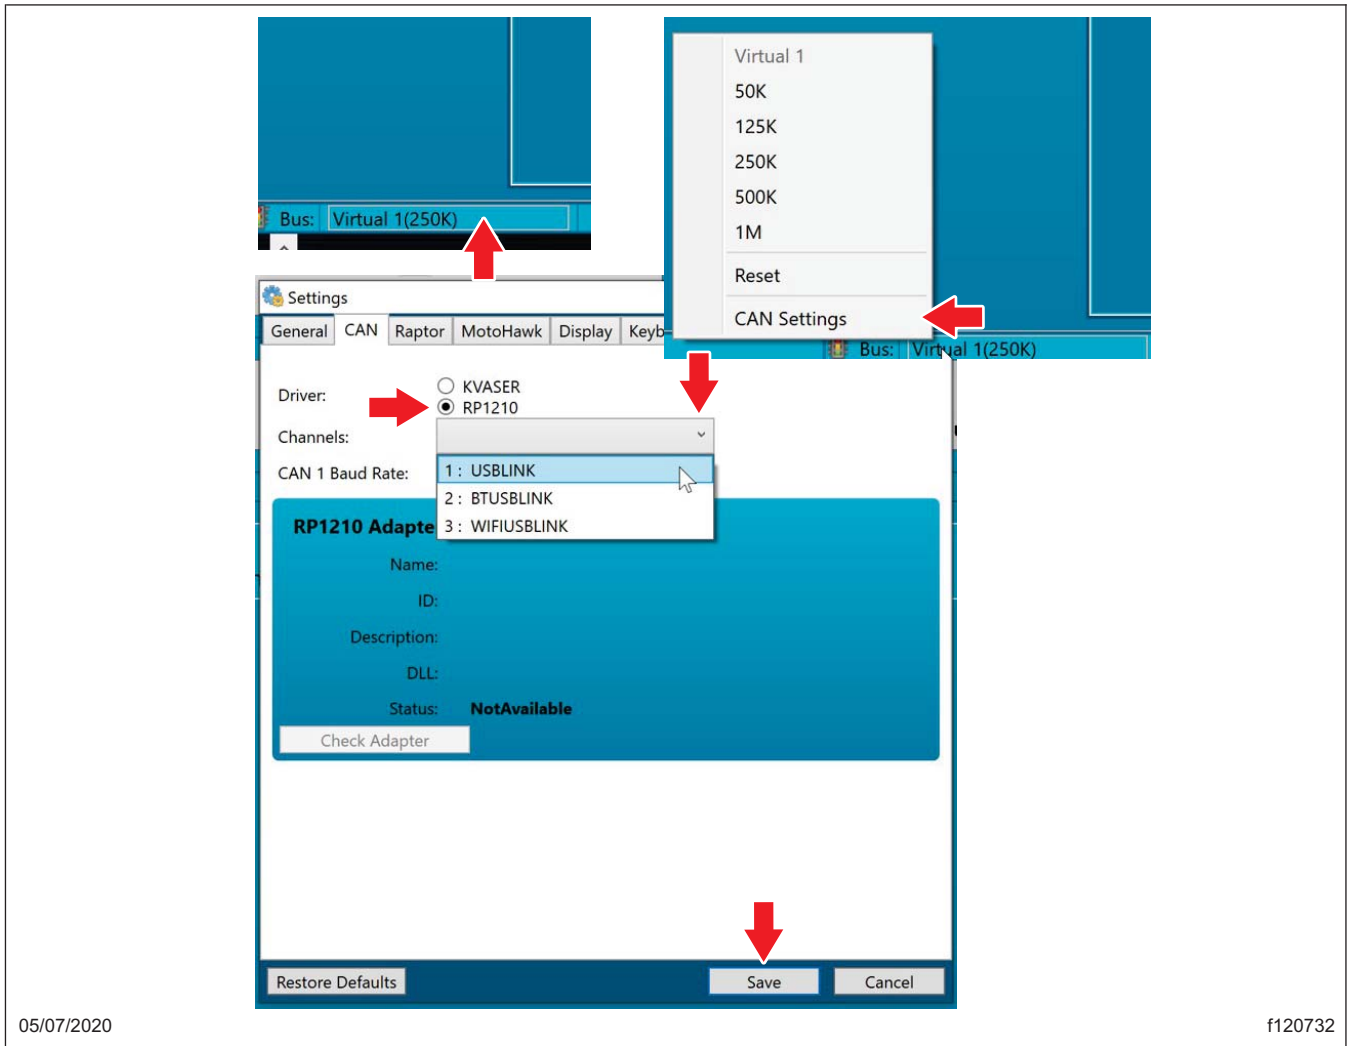

Fig. 25, Virtual 1(250k) Window
3. Right click the 'Virtual 1(250k)' box, then select 'CAN Settings.' See Fig. 25.
4. Select 'RP1210' or 'Kvaser' from the 'Driver' options as applicable, shown in Fig. 25.
5. Select the 'Channels' drop-down list, then select the interface being used and select 'Save.' See Fig. 25.